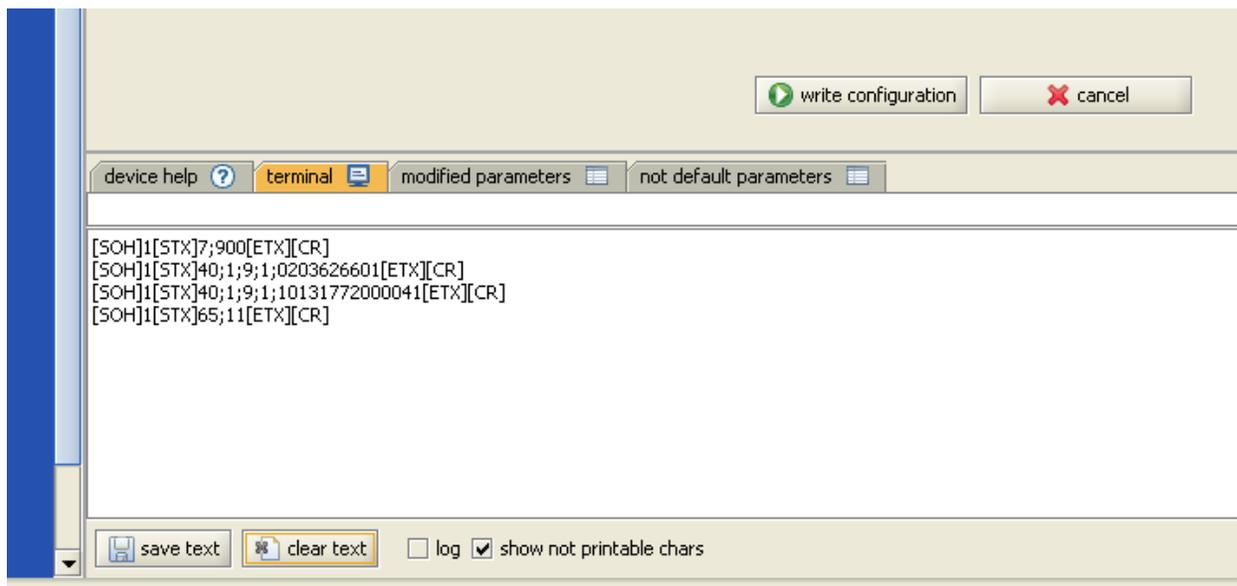

Figure 7. Terminal window for testing scans.
- 8. Test your barcode scanning by scanning some arbitrary barcodes and the test barcodes that came with your XL Barcode Reader Kit. If you click on the Terminal Tab near the bottom of the Aladdin window and check the "show not printable chars", you should see something that looks like Figure 7. The first and last scan are the "Barcode Test" and Downtime Reason Code "Jam" respectively, while the two center scans are arbitrary barcode scans being stored into Short User String #9.